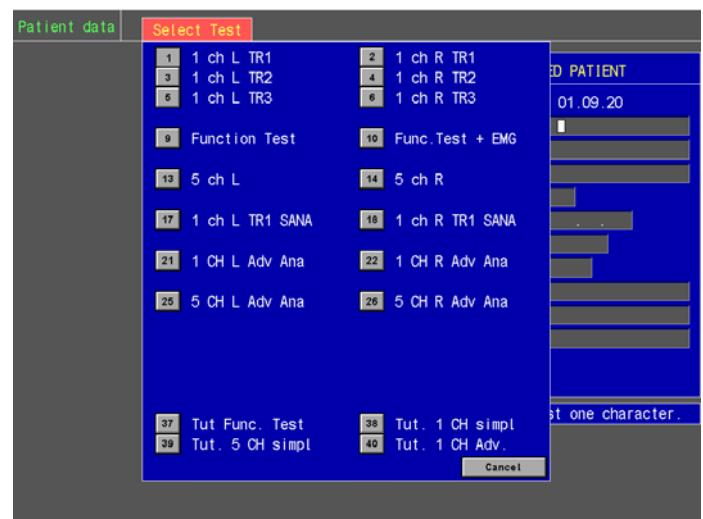

Figure 61 The Select Test Menu
- Click **OK** to proceed to the Select Test Menu, see Figure 61 below.
- In the Select Test Menu, click the selectable button number **39** named Tut. 5 CH simpl, see Figure 61 above.